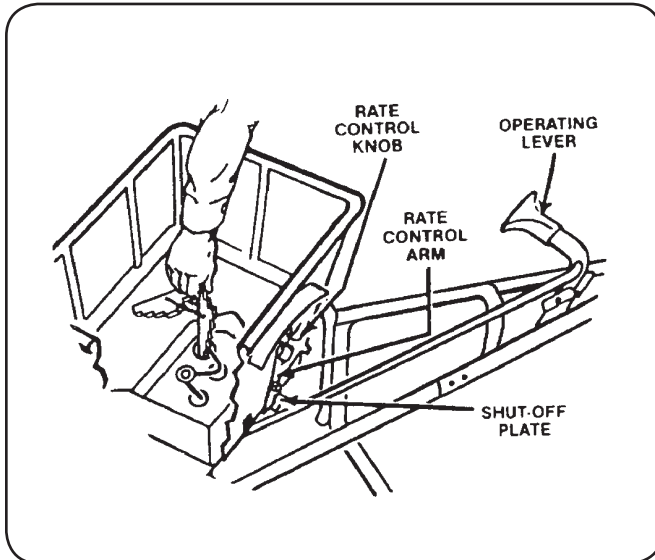

Figure 5-1
1. The approximate spreader settings printed on any product label should only be used as the initial setting for calibration. Set the rate control arm at this approximate setting. See Fig. 5-1.